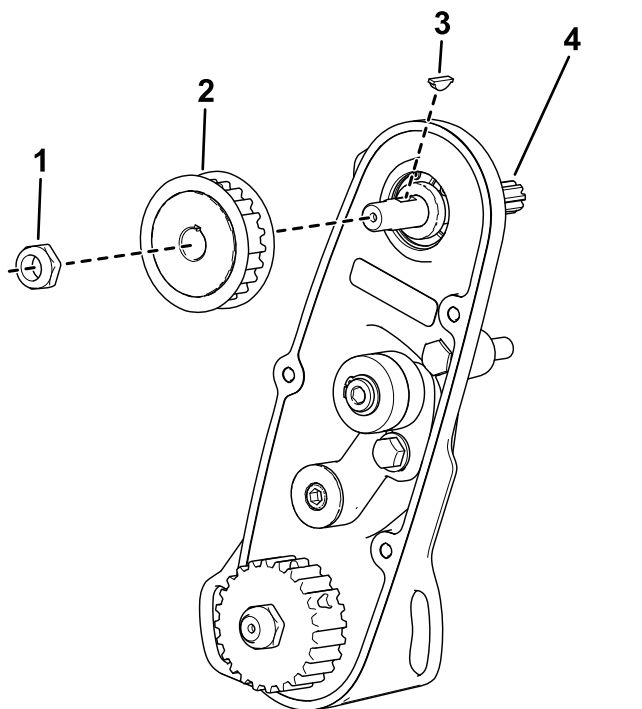

Figure 5
6. Remove the nut, pulley, and key (Figure 5).
7. Remove the existing reel driveshaft (Figure 5).